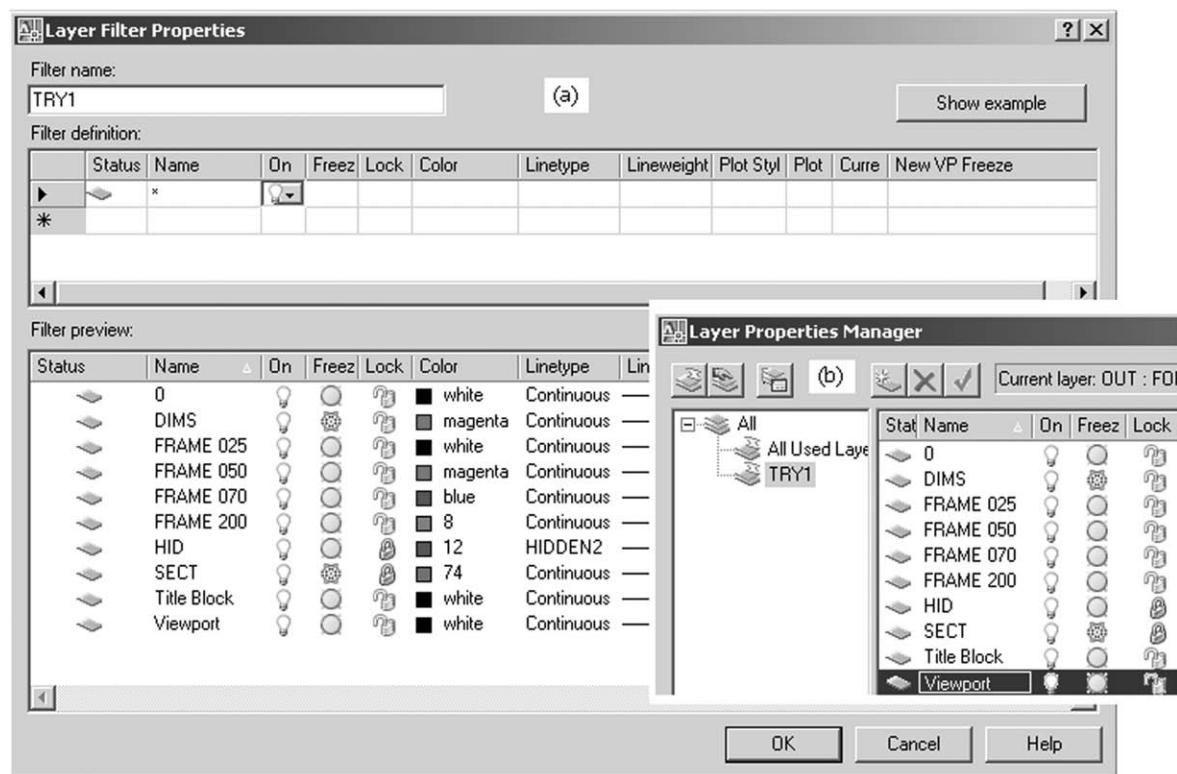

Figure 10.7 (a) The Layer Filter Properties dialogue box for TRY1 and (b) the corresponding Layer Properties Manager dialogue box with TRY1 added.
d) pick the box at On, scroll and select the On icon – dialogue box as Figure 10.7(a)
prompt Layer Properties Manager dialogue box (part displayed in Figure 10.7(b))